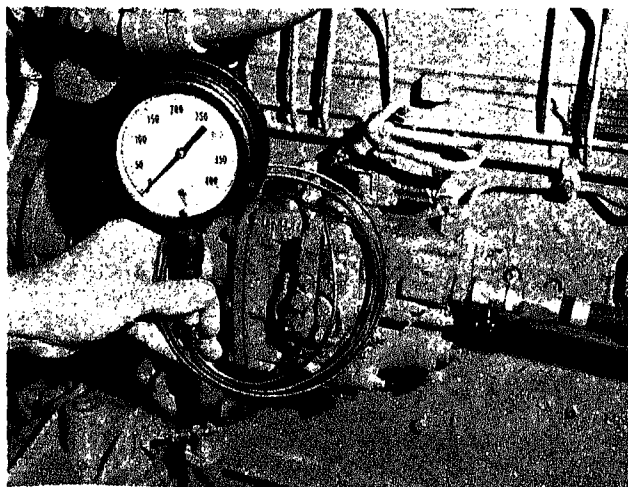

Fig. 14-2-6. Checking fuel manifold pressure
b. To take "snap" pressure readings, attach the ST-435 pressure gauge at the shut-down valve in the usual manner, Fig. 14-2-6.